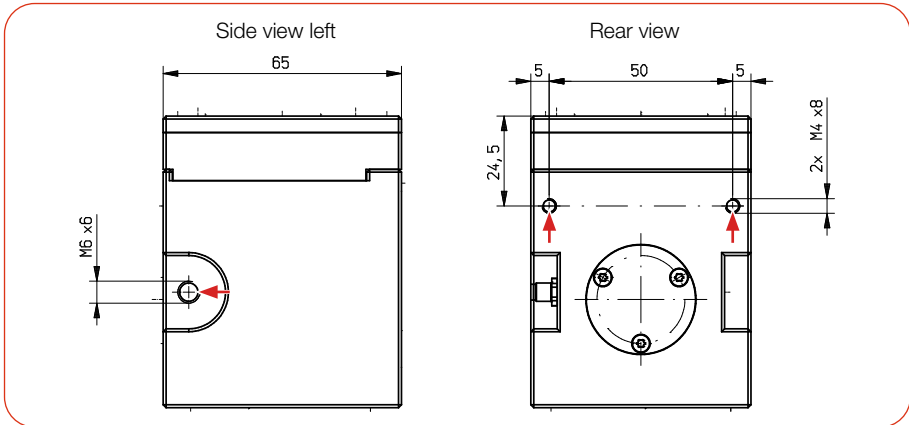

Fig. 7.4: Mounting threads in the housing (dimensions in mm)
1. Mount the device on the mounting threads according to Fig. 7.4 on page 24. The total length of the screws depends on the dimensions of the customer's bracket.
3. Unscrew the mounting screws (see Fig. 7.4 on page 24).